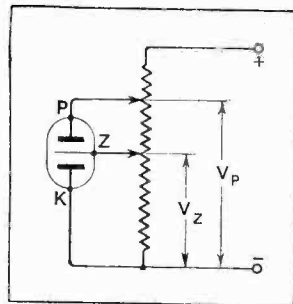

Fig. 2.—Circuit diagram illustrating adjustment of electrode potentials.
electrodes. Between the two outer plates, which serve as anode and cathode and are connected to the lower socket, a plate is placed as an intermediate "igniting electrode," to which connection is made by means of a terminal fixed to the upper end of the tube. If such a tube is connected as in Fig. 2, where P is the anode, K the cathode, and Z the igniting electrode, and if the electrode Z is neglected for the moment, a glow discharge will be set up between P and K at a perfectly definite potential. At a slightly lower potential this discharge will not start by itself, but it can be started by a certain potential on the auxiliary electrode Z. Quantitative measurement shows that there are two different limiting values for the potential V_z at which the discharge commences.
R Fig. 2); and *f*, the end of the reaction coil connected to the anode of the valve (R (P) Fig. 2).